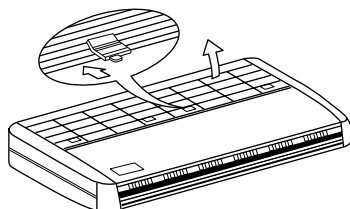

Fig. 3
- Slide the suction grille fixing knobs (2 parts) backward (arrow direction) and open the suction grille widely. **(Refer to Fig. 3)**